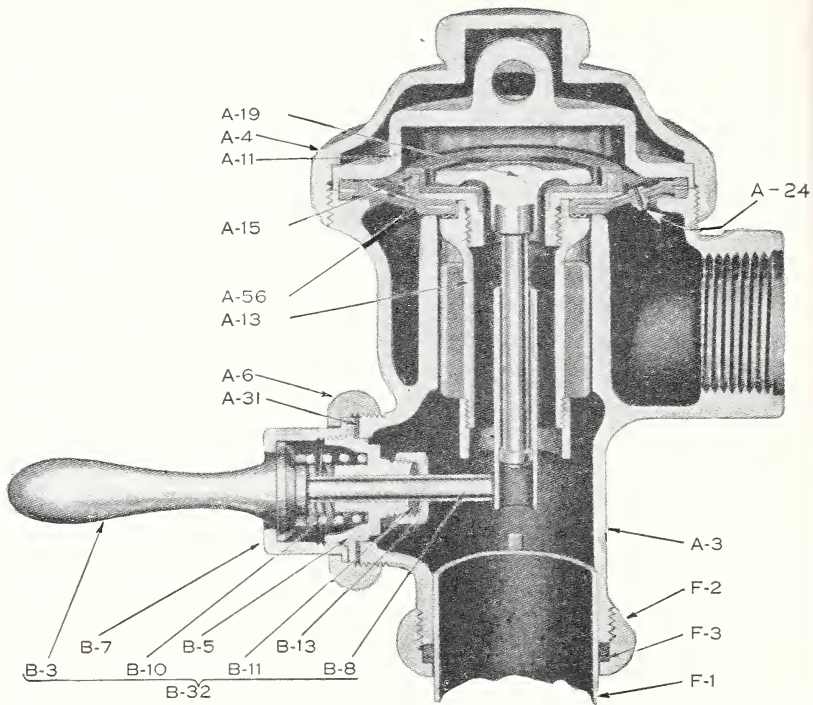

FIGURE 50.—Cross section of a water-closet flush valve.
*Flush valve.*—In some houses, a flush valve instead of a tank is provided to flush the water-closet bowl. There are several kinds of flush valves, but the adjustments required for each are much the same. The type shown in figure 50 is one commonly used and will therefore be taken as an example.